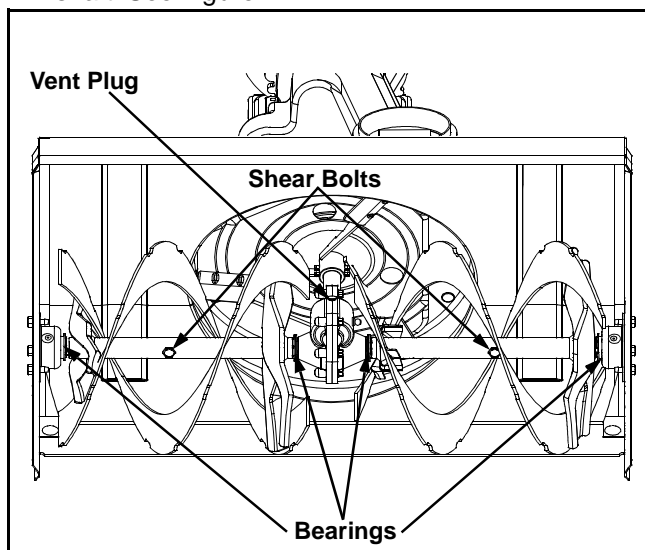

Figure 12
- At least once a season, remove the shear bolts from the auger shaft and spray lubricant inside the shaft. See Figure 12.
The gear case is lubricated with grease at the factory and it does not require checking. If disassembled for any reason, lubricate with 2 ounces of Shell Alvania grease EPR00, part number 737-0168. Before reassembling, remove old sealant and apply new sealant. See Figure 12.
Every season lubricate the auger bearings and the bearings on the side of the frame with light oil. See to Figure 12.